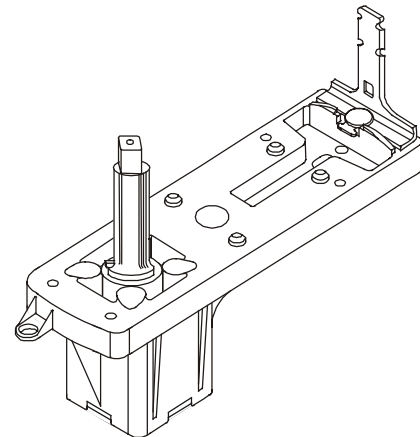

Figure 5: M9206 Anti-Rotation Slider Mounting Location
1. Reposition the slider as shown in Figure 5. Loosen the wing nut and remove the carriage screw and anti-rotation slider. Move the anti-rotation slider to the back of the mounting bracket as shown in Figure 5. Secure the assembly using the carriage screw, split lock washer, flat washer, and wing nut provided. Loosely engage the wing nut only a few turns on the carriage screw to reposition the anti-rotation slider until after you mount the actuator.